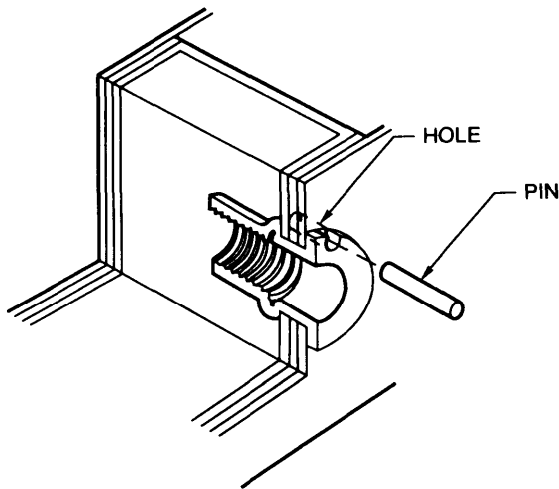

Figure 3-9. Repair of Turning Rivnut
(3) *Repair.* (Figure 3-9) When excessive torque is applied on screws attached on rivnuts, it may cause a rivnut to turn (spin). Table 3-4 provide the maximum torque requirement for hardware to prevent rivnut turning. To correct a turning rivnut, proceed as follows:
(a) Drill a .062 (+.003, -.001) diameter hole by 1.00 inch long on the stem of the turning rivnut as shown in Figure 3-9.